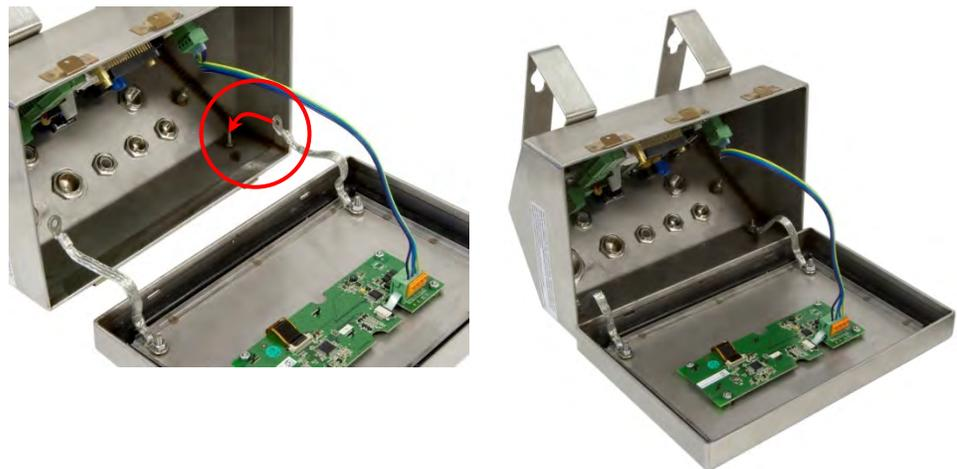

Figure A-21: Reversing the Cover
- C. Carefully rotate the front cover 180 degrees and reattach the two grounding straps to the two studs near the grip bushings using the two nuts removed in the previous step as shown in Figure A-21 . Tighten the two nuts.